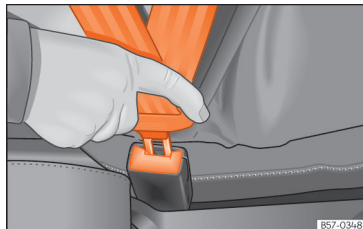

Fig. 21 Insert the latch plate of the seat belt into the buckle.
- Insert the buckle plate in the buckle of the correct seat »» Fig. 21.